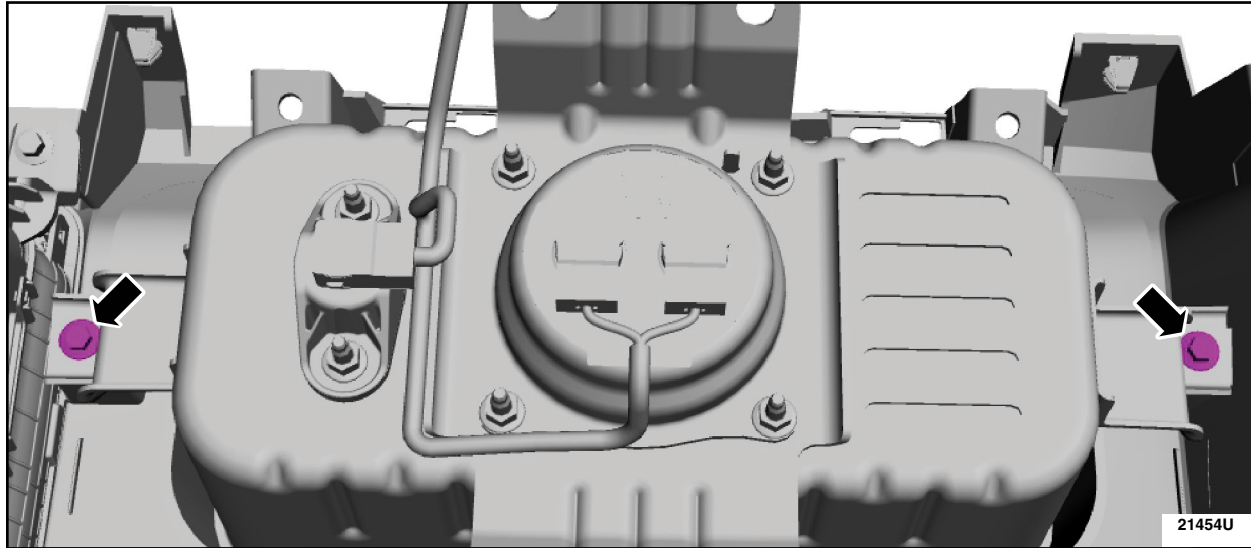

FIGURE 18
18. Remove the passenger airbag anti-rattle bracket screws. See Figure 18.